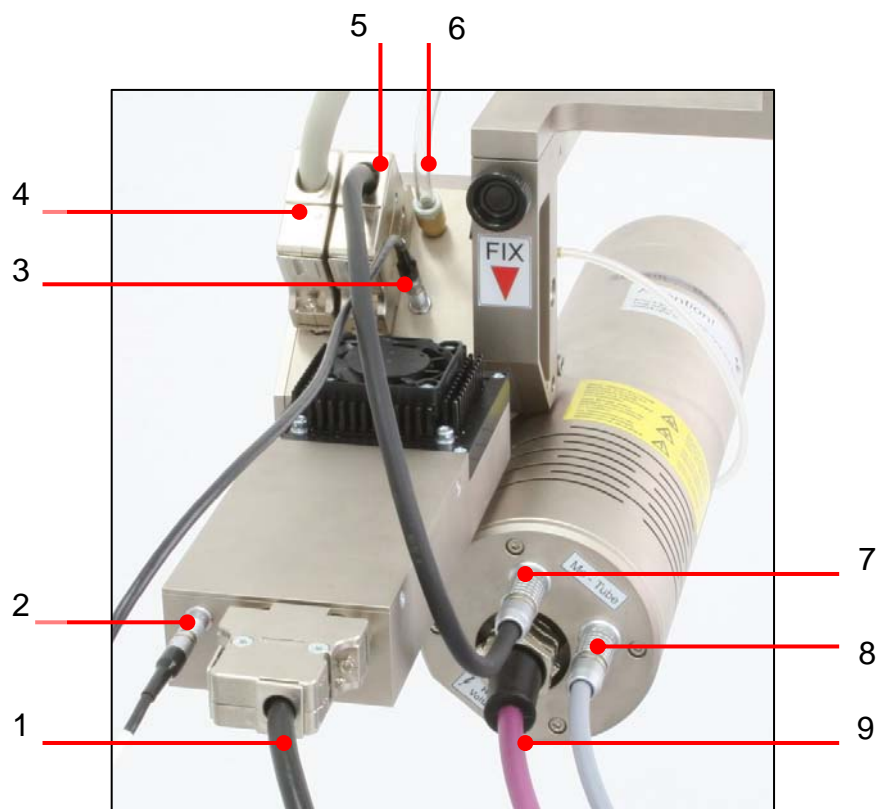
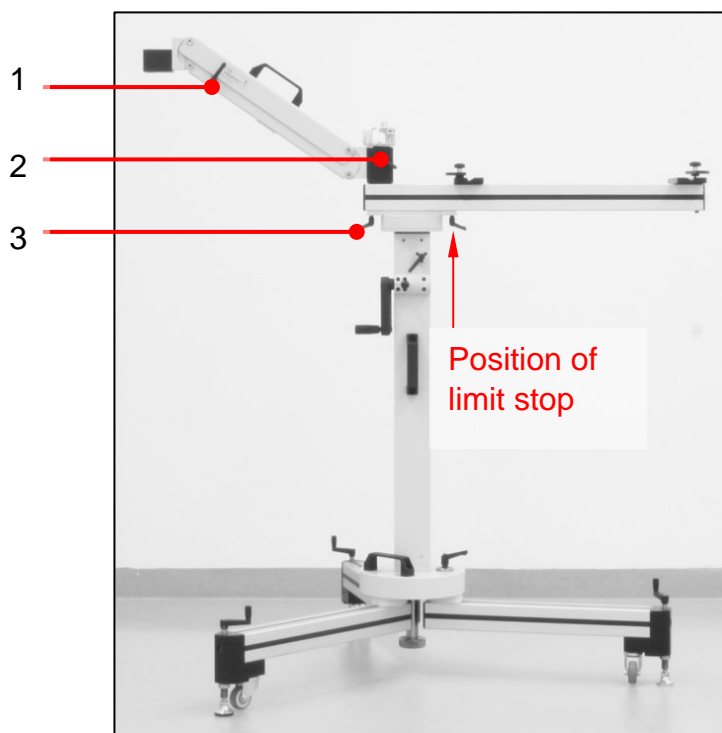

Fig. 22: Connections on the measuring head
Fig. 25: Tripod with cantilever and floating arm attached
4. Push cantilever with floating arm as far as it will go into the seating of the tripod support (see Fig. 22) and secure with the 2 retainers (see Fig. 25, pos. 3).
5. After installation of the tripod, the floating arm is attached using the appropriate retainers (see Fig. 25, pos. 1 and 2).